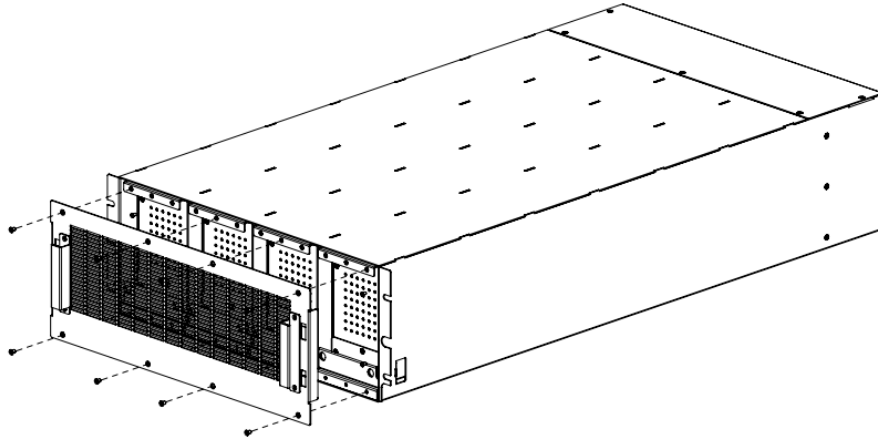

Figure 73: Remove Battery Baffle on the EBP
3. Remove the screws and battery baffle from EBP (see Figure 73).